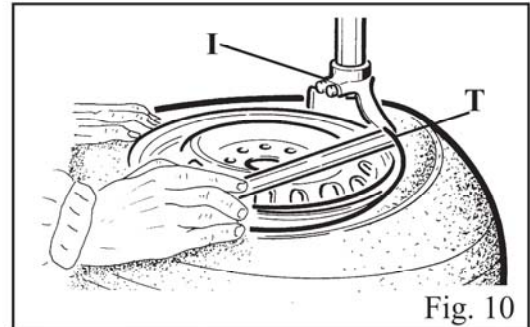

Fig. 10
- Fix the tank on the back side of the machine body through the proper screw. Fig. 10.
- Route the hose (2), situated inside the machine body, through the hole on the back side of the body.
- Tighten the hose (2) to the tank through the proper union.